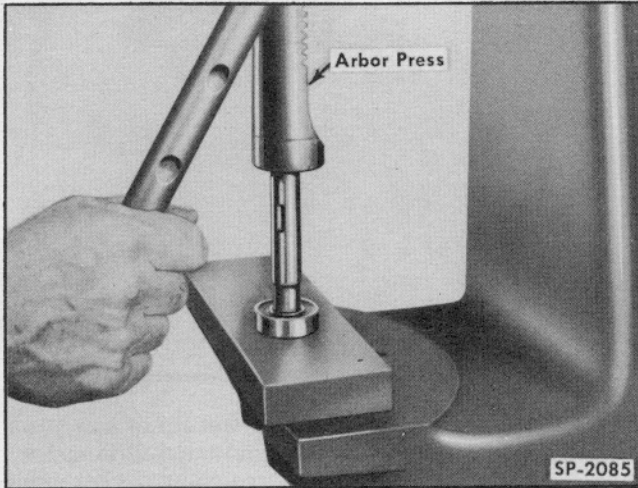

Fig. 20—Installing Pump Shaft Bearing
2. If removed, install pump shaft bearing on shaft using an arbor press (Fig. 20). Support inner race of bearing while pressing to prevent damage to bearing. Bearing should be pressed on until it bottoms against shoulder on shaft.